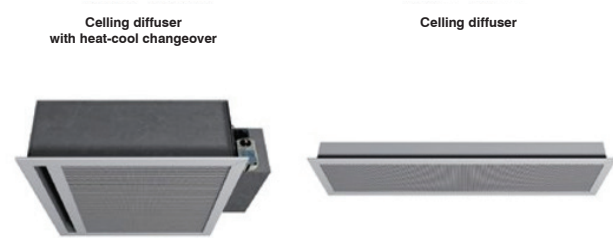

Fig.11 : Heat-Cool changeover diffuser in ceiling
- Ceiling-mounted displacement diffusers (used selectively), typically located near walls to take advantage of the Coanda effect and minimize entrainment of polluted upper-zone air where low-level installation is not feasible.(Fig. 11 &12)